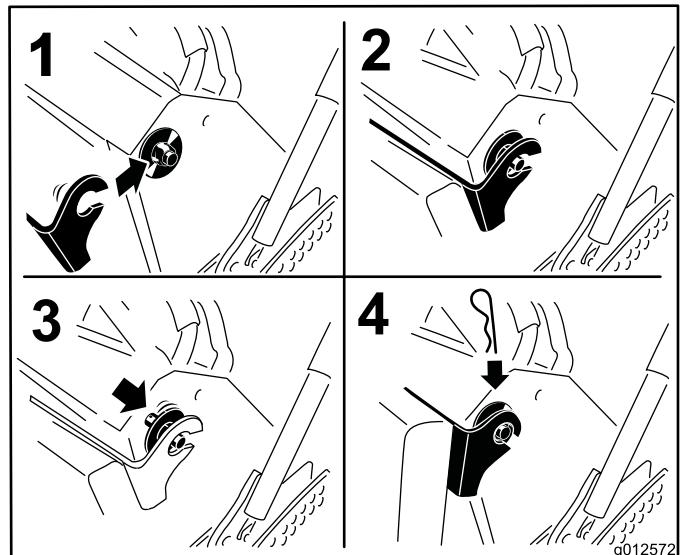

Figure 35
6. Raise the cushion and slide it onto the pins on both sides of the machine (Figure 35).
7. Slide the large washers with plastic bushings into the cushion bracket and secure them with a hairpin cotter pin (Figure 35).